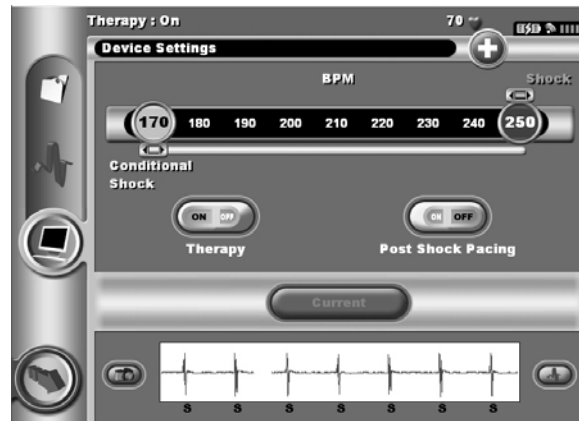

Figure 32: Setting the On/Off Therapy switch
4. Select the On/Off Therapy switch to set the desired therapy mode (Figure 32).